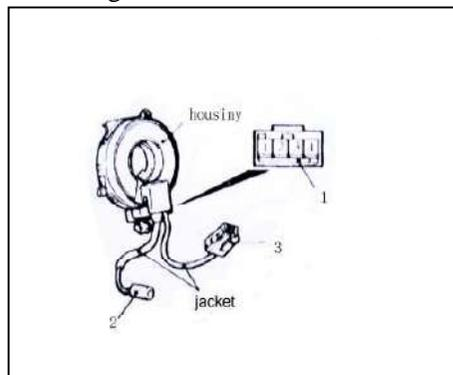

Fig 19-14
5. Clock spring(See fig 19-14)